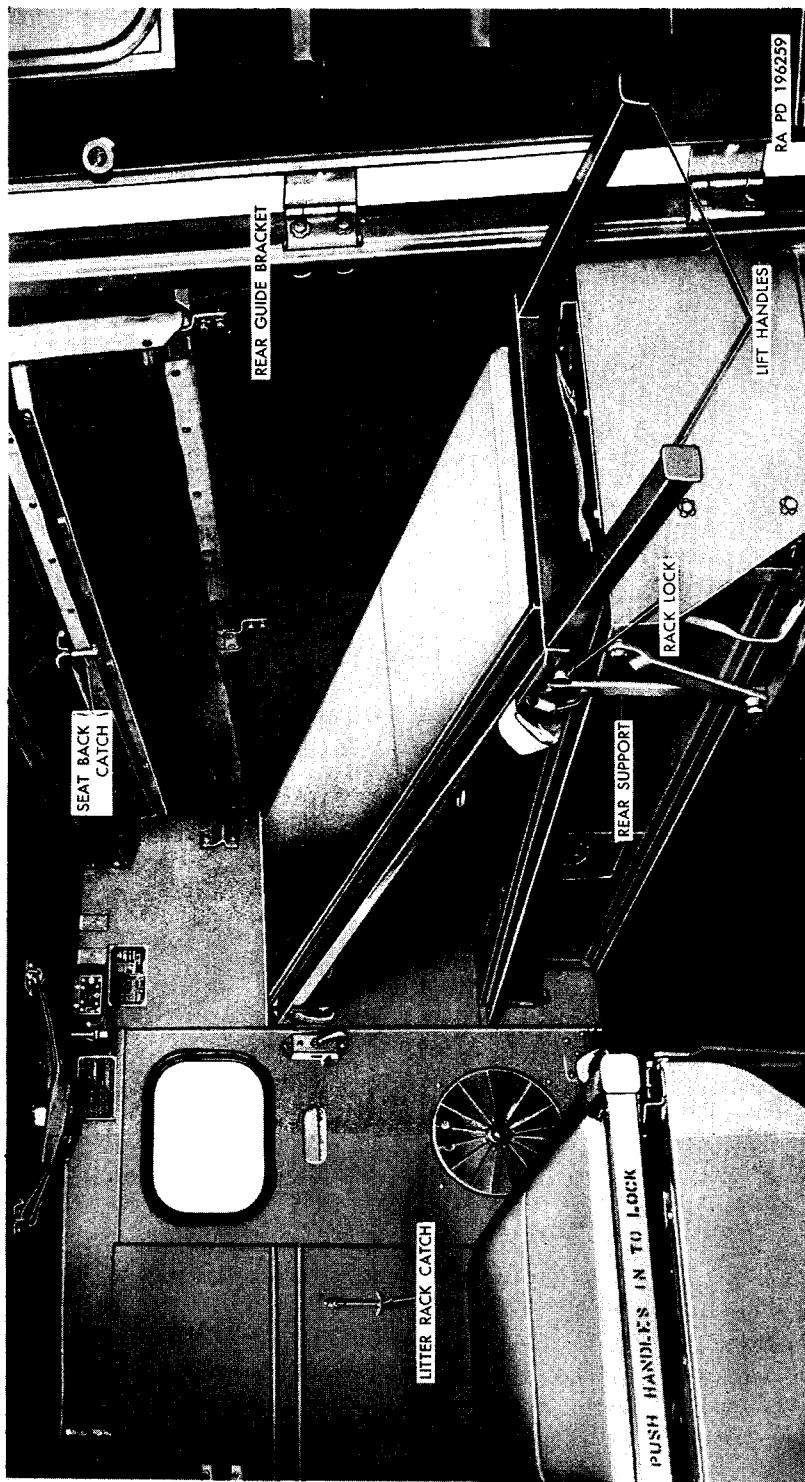

Figure 24. Raising or lowering litter rack.
b. Lowering Litter Rack (fig. 24). The litter rack catch must be disengaged from the catch bracket to provide clearance for lowering the rack. Pull out both litter rack lift handles to disengage the litter rack locks. Push both rack supports forward and lower the
c. Raising Litter Rack (fig. 24). Raise the seat back cushion and engage the seat back catch. Pull out the two litter rack lift handles. Raise the front end of the litter rack and engage the rack pins in the partition openings. Raise the rear of the litter rack and engage with the litter rack rear guide bracket. Push the two lift handles in to lock the litter rack in the raised position.